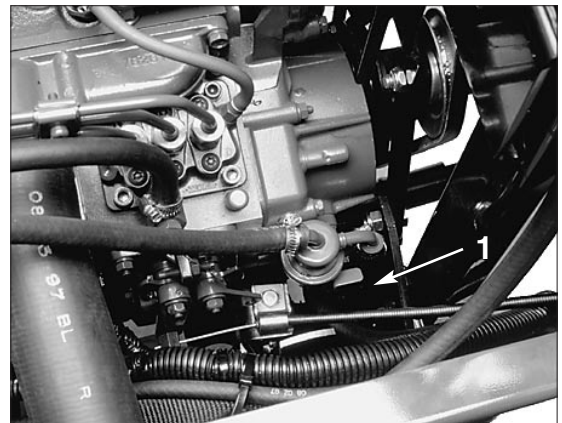

Figure 13
3. Pump the lever on the fuel pump (Fig. 13) until a solid stream of fuel flows out around the screw. Tighten the air bleed screw.